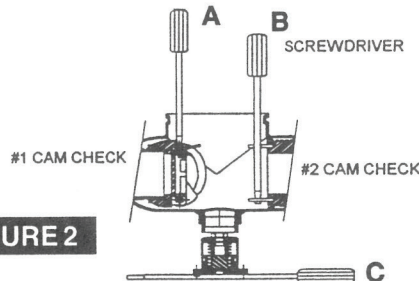

FIGURE 2
2. Remove #1 Cam-Check assembly by using your hands to unscrew (turn counter-clockwise) Cam-Check and remove through top access port. **Do not use Cam Arm as a handle to unscrew Cam-Check.** If Cam-Check cannot be loosened by hand, insert a long screwdriver between valve body and Cam-Check (see figure 2). Gently apply pressure against the Cam-Check until loosened. Finish unscrewing by hand. Unscrew #2 Cam-Check (turn counter-clockwise) by placing a long screwdriver across lugs and applying pressure to loosen #2 Cam-Check. Finish unscrewing by hand.
4. Before reinstallation of Cam-Checks, thoroughly clean O-ring groove and lubricate O-ring with FDA approved lubricant. Insert and thread #2 Cam-Check first and then #1 Cam-Check. #2 Cam-Check should be tightened by inserting a long screwdriver between lugs to tighten firmly (see figure 2). Do not over tighten. Tighten #1 Cam-Check firmly by hand only. Replace cover plate, clean groove coupler gasket and groove. Replace groove coupler. Close ball valves. Repressurize and bleed air from all test cocks.